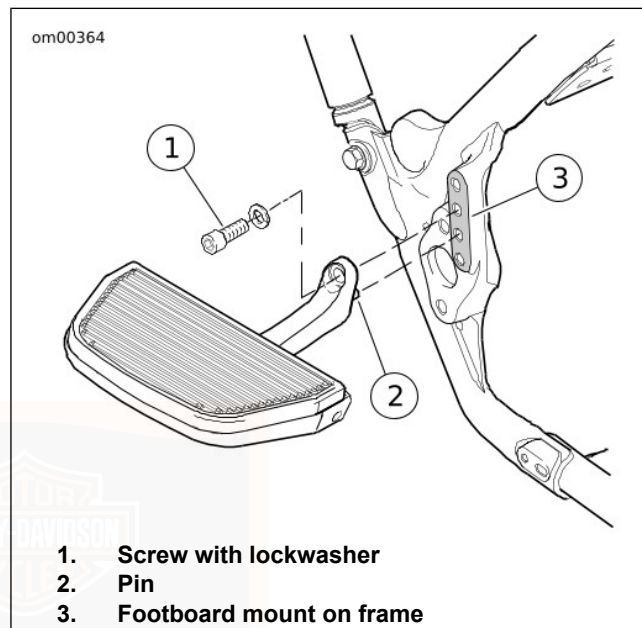

Figure 22. Passenger Footboard
1. See Figure 22. Remove socket screw with lockwasher to remove footboard bracket from footrest mount in frame.